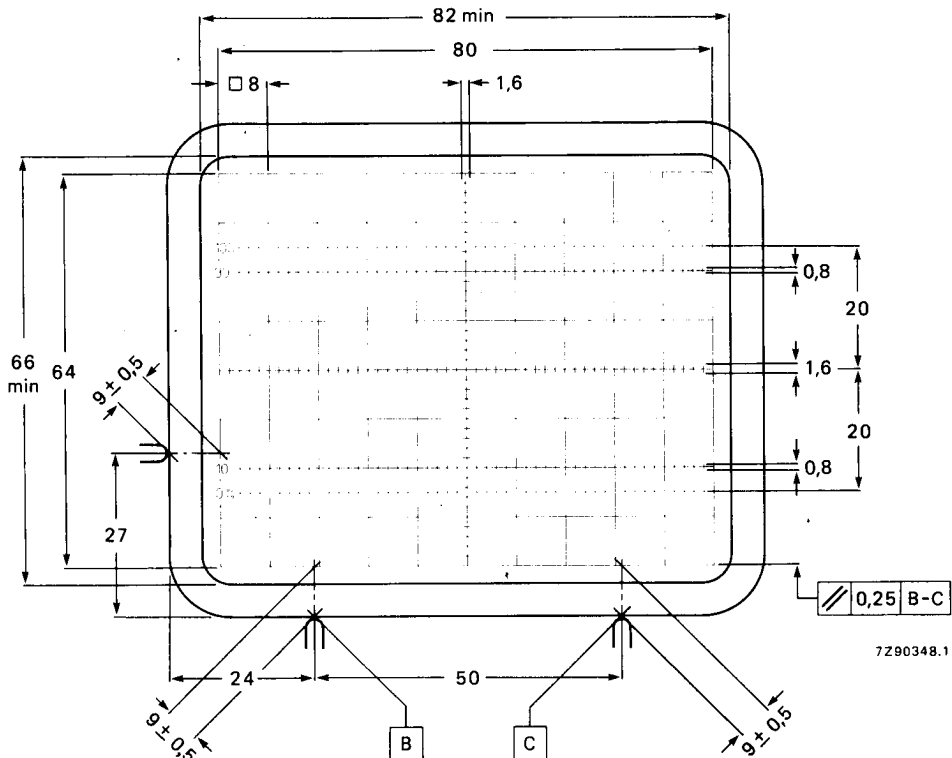

Fig. 4 Front view of tube with internal graticule, type 119.
Internal graticule	type 119; see Fig. 4
The tube can be mounted in any position. It must not be supported by the socket and not by the base region alone. The reference points on adjoining edges of the faceplate (see Fig. 4) enable the tube to be mounted accurately in the front panel, thus providing optimum alignment of the internal graticule.
- (1) Dimensions of faceplate only. The complete assembly of faceplate and cone (frit seal included) will pass through an opening of 101 mm x 85 mm.
- (2) The coil is fixed to the envelope with resin and adhesive tape.
- (3) The length of the connecting leads of the rotation coil is min. 350 mm.
- (4) Reference points on faceplate for graticule alignment (see Fig. 4).
The internal graticule is aligned with the faceplate by using the faceplate reference points, see Fig. 4. See also note 1.
1. As the frit seal is visible through the faceplate, and not necessarily aligned with the internal graticule, application of an external passe-partout with open area of max. 82 mm x 66 mm is recommended. The internal graticule is aligned with the faceplate by using the faceplate reference points (see Fig. 4).